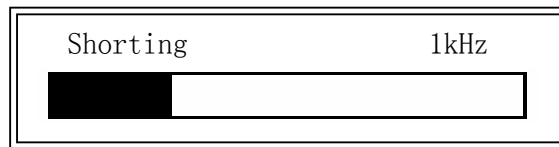

Figure 4-22. Short Correction Information
- 3) Press **ShSWP**. TH2817A will measure the short impedance (inductance and resistance) at all frequency points. Figure 4-22 shows the short correction information.